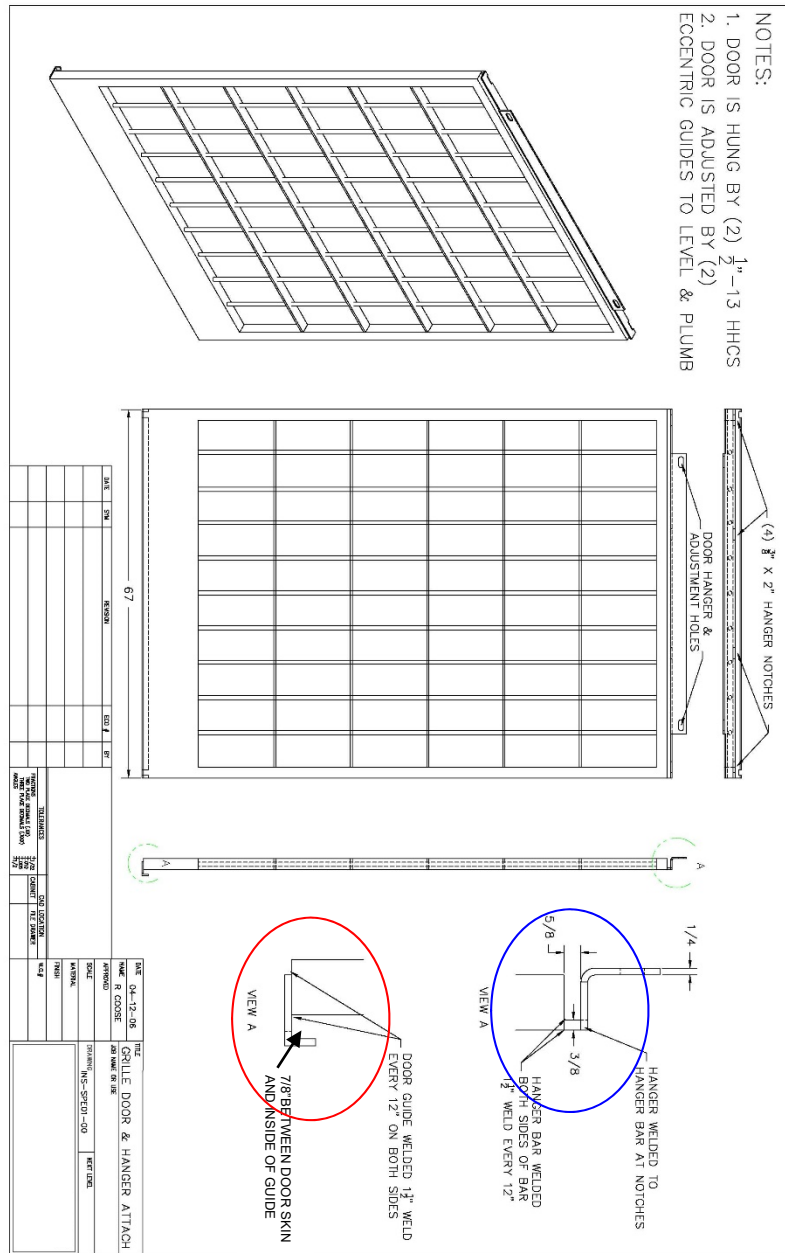

FIGURE 6
6. The door requires a **Hanger, Hanger Bar** and a **Door Guide Angle** welded in place (Figure 6). The door guide angle is place 7/8" from skin of door to the inside of the door guide angle and the ends flush. It is then welded into position (Red Oval Figure 6). The door hanger and hanger bar are welded to the door with the flat mounting side of the hanger parallel to the doors surface (Blue Oval Figure 6). See Erection drawings for details.
USING CONTROL VOLTAGE (6 VDC, 12 VDC, 24 VDC, ETC. PROVIDED BY THE CONTROL CONSOLE), WHICH IS DIFFERENT FROM THE POWER VOLTAGE (120 VAC, 220 VAC, FROM MAIN POWER BREAKER), **THE J2 JUMPER MUST BE CUT AND SEPARATED** TO ISOLATE COIL VOLTAGE FROM POWER VOLTAGE AND THE RELAYS MUST MATCH THE CONTROL VOLTAGE. **SEE FIGURE 6.**